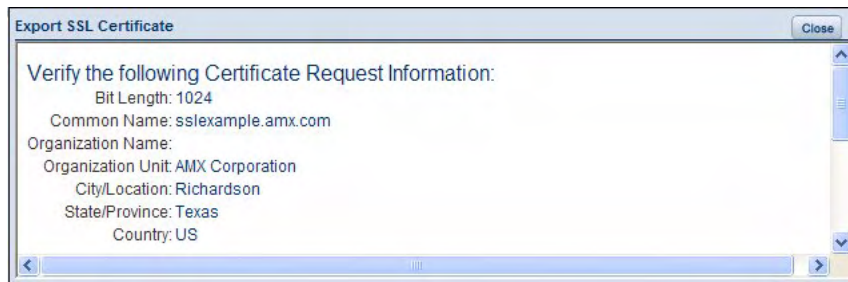

FIG. 38 Export SSL Certificate window
- Click the **Export SSL Certificate** link to display the certificate text file in the Export SSL Certificate window (FIG. 38).